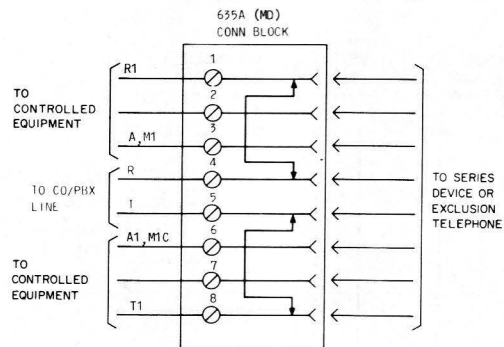

Fig. 17—Schematic Diagram, 635A Connecting Block (MD)
3.15 635A Connecting Block (MD): Remove the cover from the block by loosening the screw in the center. Mount the block on a suitable vertical surface. Connect the line and control station leads (Fig. 17) to the screw terminals. Replace the cover. Connection of the series or excluded equipment is to be made by inserting the plug into the series jack.